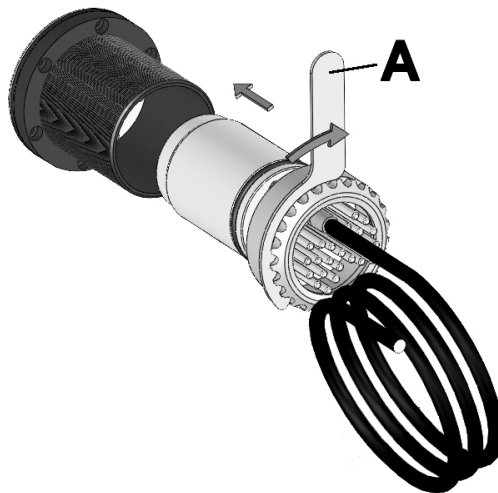

Fig.8.4
2. Insert the light insert into the housing. Make sure you clean any debris or dirt away from inside the housing and inside of the lens. To install with the wide beam, ensure the cable gland is positioned vertically. For a narrow beam, the cable gland needs to be horizontal. (Fig.8.4).